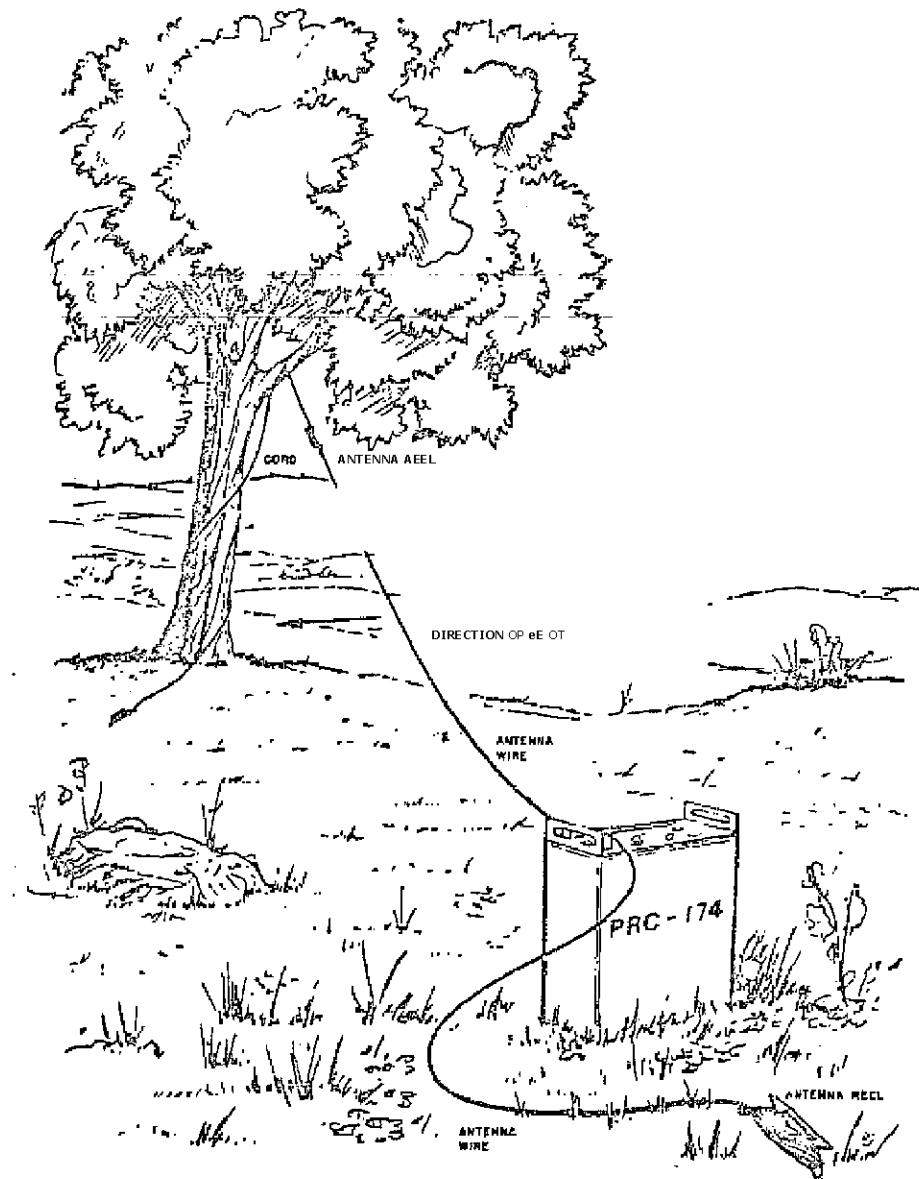

Figure 2-9. Slant-wire antenna
- a. The most effective propagation direction of the dipole antenna, for both "transmit" and "receive" modes, is broadside to the wire, as indicated in Figure 2-9. If two suitable supports
a. The most effective propagation direction of the slant wire, for both transmit and receive modes, is broadside to the wire, as indicated in Figure 2-9.
- 2) Erect the antenna as shown in Figure 2-9: